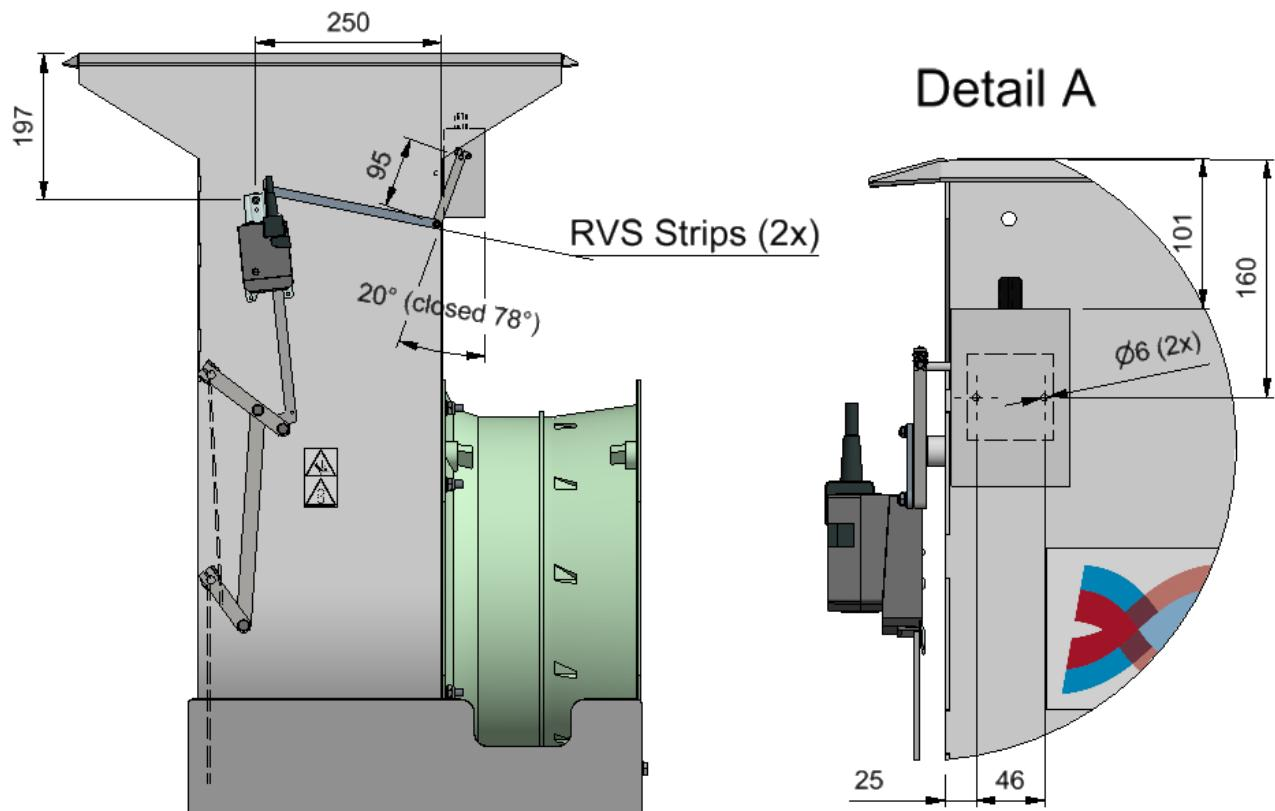

Figure 11 Mounting valve position sensor
- Drill two 6-mm holes in the Airmix housing , see Figure 11;